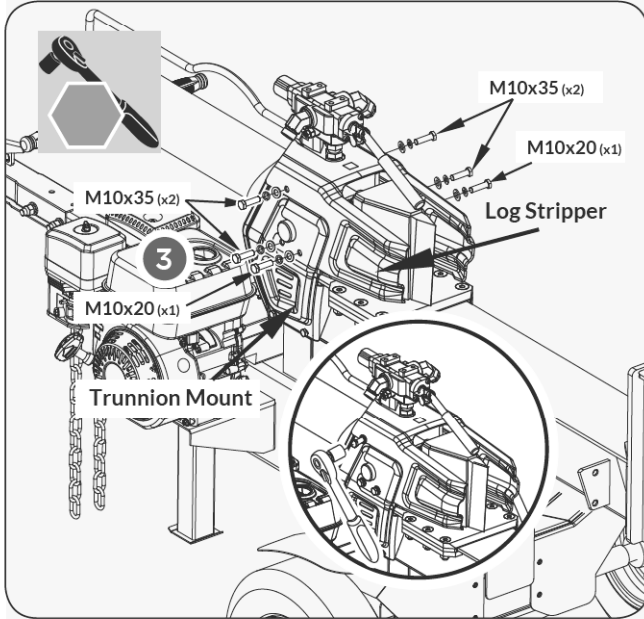

Figure 11d
3. Install the log stripper by tightening the M10x35 and M10x20 bolts, spring washers, and flat washers. (See **Figure 11d**) (YS3665 and YS4065 ONLY)